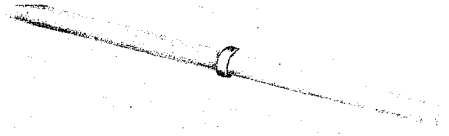

Fig. 2 — Staple
**3.03** Staples used for fastening inside wire and cable have a galvanized finish which provides resistance to rust and corrosion. (See Fig. 2 and Table B.)